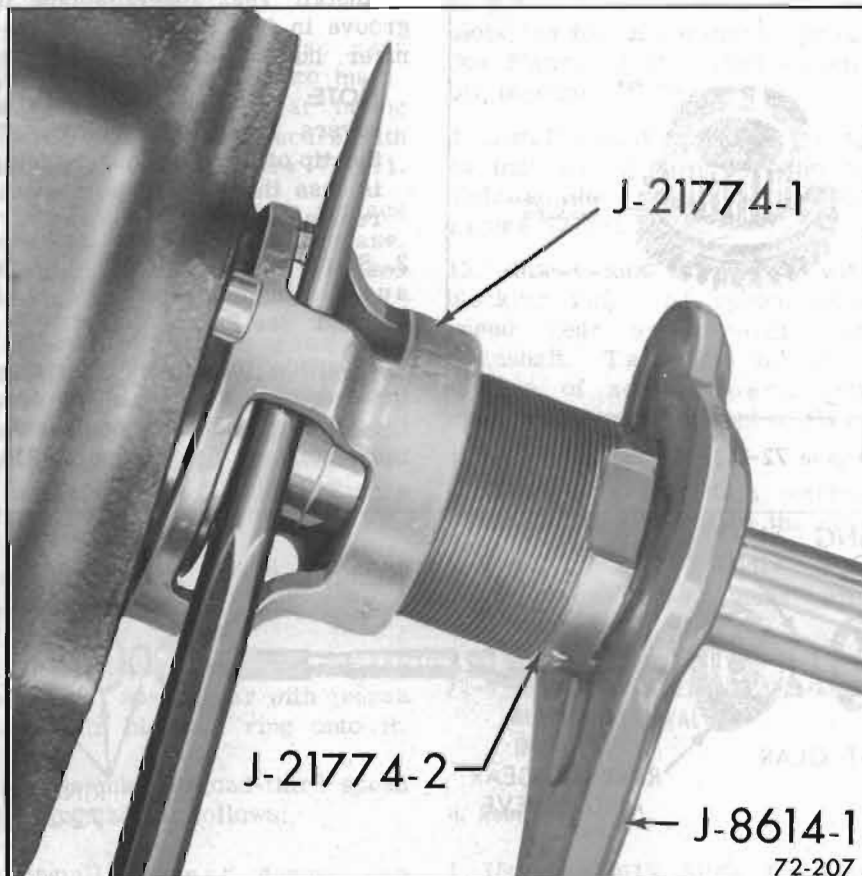

Figure 72-207—Removing Rear Bearing
15. Remove rear bearing as follows: See Figure 72-207.